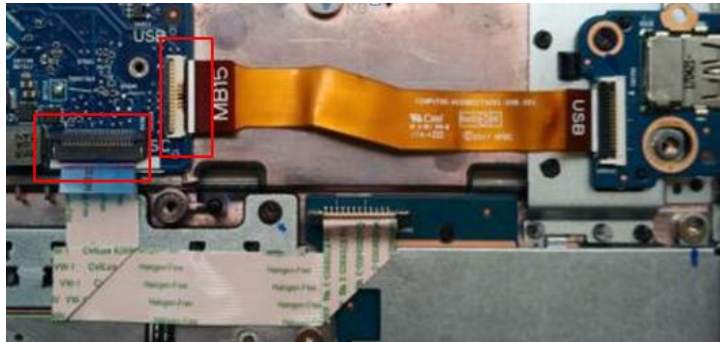

Fig.3
3. Disassemble USB FFC(Fig.3).
4. Disassemble SMC FFC(Fig.3).